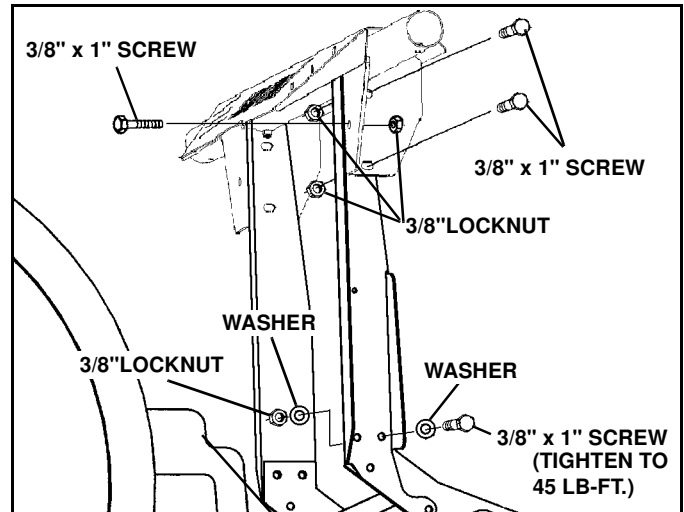

Figure 1-21
9. Remove left and right light support from power pack carton. Attach each light bar support to lift/light bar with (4) 3/8" x 1" screws, (8) washers and (4) lock nuts from the light bar parts bag part number 96106089. Do not tighten at this time. (See Figure 1-21)
10. Secure light bar to supports with (6) 3/8" x 1" screws and lock nuts. Align light bar supports to vertical position and tighten all light bar hardware. Tighten eight lower screws to 45 lb-ft. (See Figure 1-21)